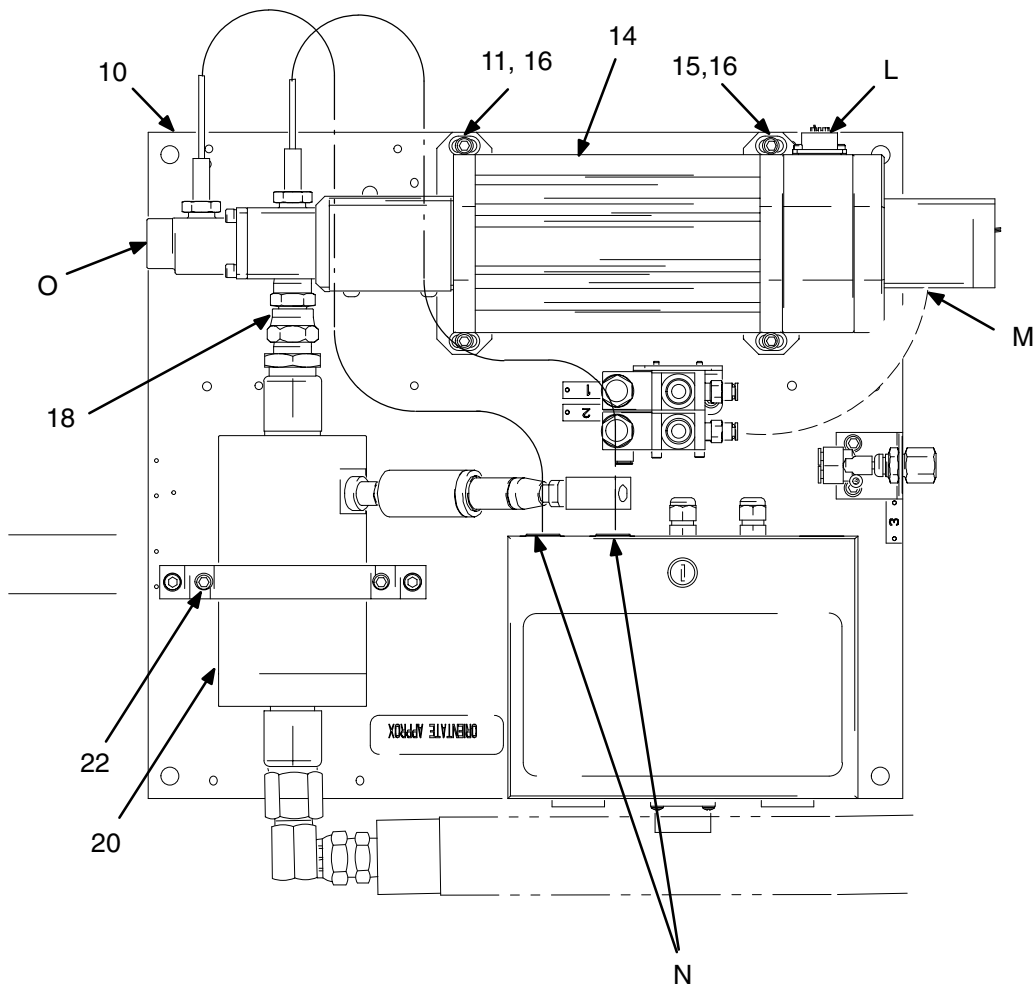

Fig. 14
1. Place the metering valve (14) on the mounting plate (10). Secure it with the rear and front metering valve brackets (15 and 11), screws (16). See Fig. 14.
2. Check that the flow meter (20) and metering valve (14) are aligned.
3. Tighten the swivel fitting (18) onto the metering valve material inlet. See Fig. 14.
4. Connect the material line to the metering valve material outlet (O).
5. Connect the motor power cable to the metering valve connector (L).
6. Connect the pressure sensor cables to the junction box connectors (N).
7. Connect the closer air line to the closer air inlet (M).